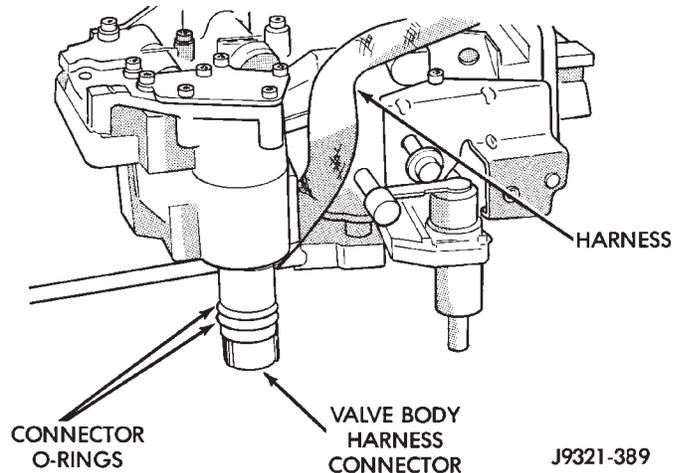

Fig. 55 Valve Body Harness Connector O-Ring Seal
- (1) Check condition of O-ring seals on valve body harness connector (Fig. 55). Replace seals on connector body if cut or worn.